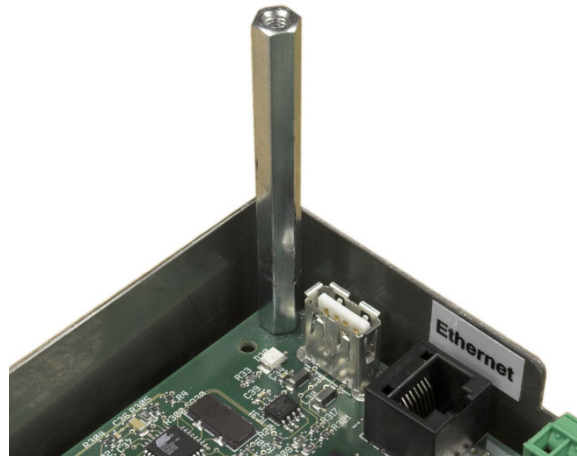

Figure 3-40: Stand-Off on Main PCB
11. Unscrew and remove the six screws holding the main PCB to the enclosure. Their locations are circled in Figure 3-40. In the case of a panel mount terminal, the four outer fasteners will be hex post stand-offs, as shown in Figure 3-40.